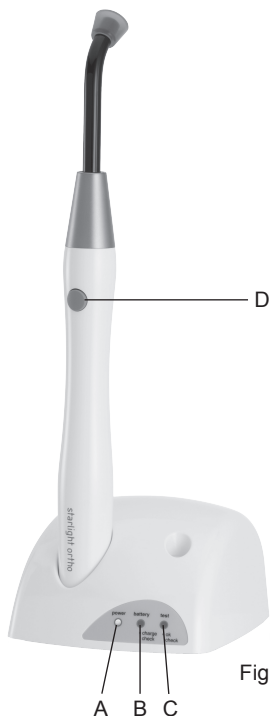
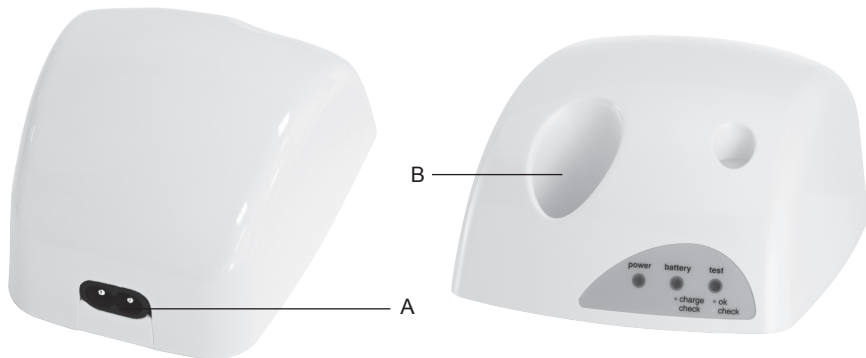

Fig. 4
Fig. 5
⚠ DANGER: Do not short circuit the electric contacts of the charging unit with metal objects (Fig.5 - Ref.B) and do not touch them with your hands while the equipment is switched on.
Description of the controls (Fig. 4):
- 2 Plug the power cable (Fig.3 - Ref.E) into the connector on the rear of the equipment (Fig.5 - Ref.A) and then into the power outlet. The green power LED should light up (Fig.4 - Ref.A).
- 1 Insert the handpiece into its housing in the charging unit (Fig.5 - Ref.B). The green battery LED will light up (Fig.4 - Ref.B).
- 1 Place the handpiece in its housing in the charging unit (Fig.5 - Ref.B). The green battery LED will light up (Fig.4 - Ref.B).
If the yellow battery LED (check) on the charging unit lights up, this indicates that the battery has failed (Fig.4 - Ref.C).
Once the treatment is completed, place the Starlight ortho handpiece back into the charging unit (Fig.5 - Ref.B).